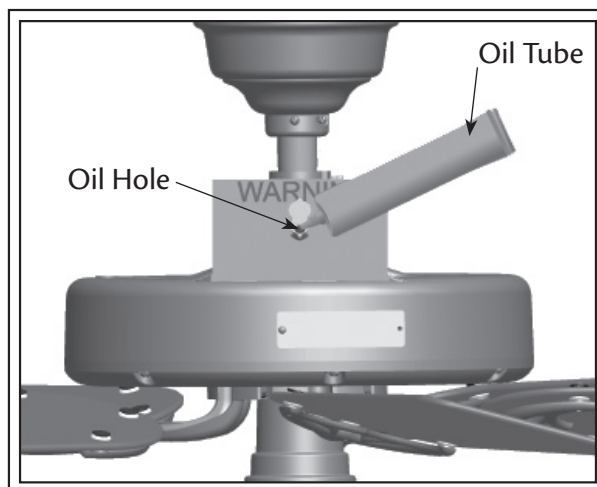

Fig. 12
3. Place the tube into the oil hole and gently squeeze the tube to empty the oil into the fan's reservoir. (see Fig. 12).